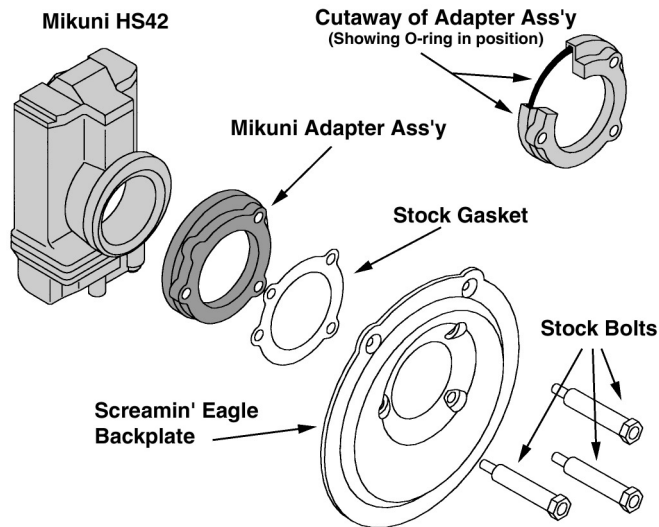

Figure 6
- B. The remainder of the Mikuni/Screamin' Eagle installation follows the Harley instructions. We recommend that you follow those directions to complete the air cleaner installation (Figure 6).